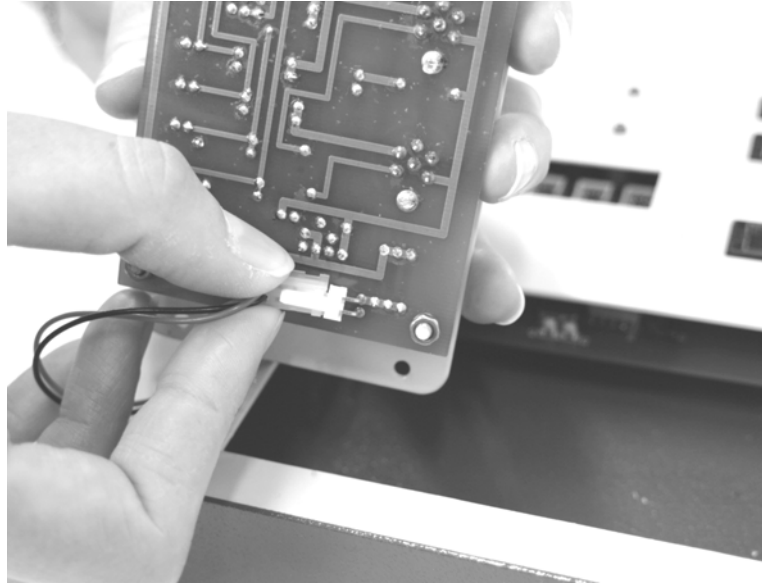

Figure 8 Unplug the Old Board and Take It Away for Safe Storage
4. Carefully remove the small plug from the board and take the board away (see Figure 8). Store it in a safe place for future use.